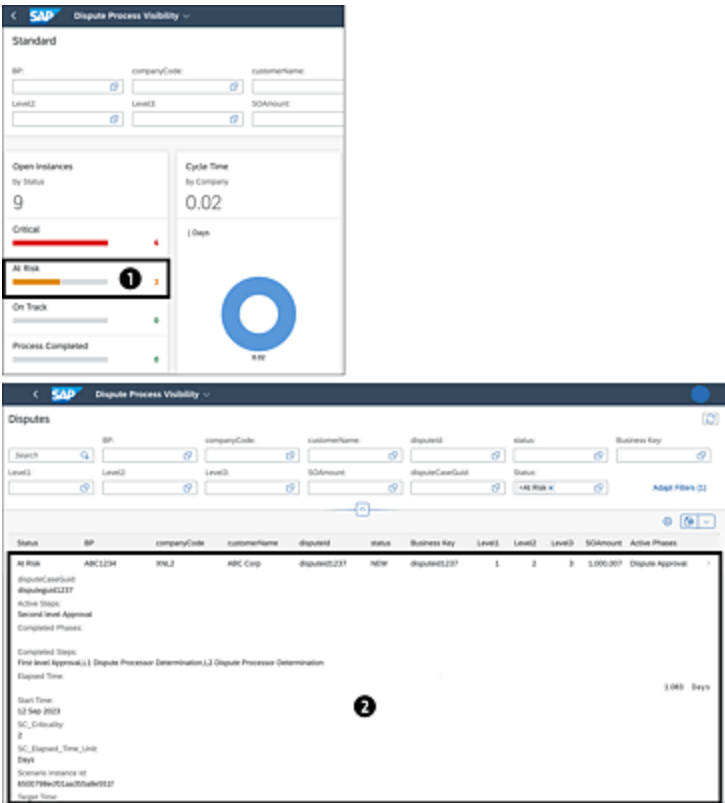

Figure 19.27 Testing Trigger Workflow Action: Steps 1 and 2
Now, let's see the effect of this **Trigger Workflow** action. For this, launch the visibility scenario for the process, as shown in Figure 19.27.
Because you defined the condition to trigger the workflow for the process instances where the status is **At Risk**, click on the **At Risk** section of the **Open Instances** tile in the visibility dashboard, as shown in Figure 19.27 ①. It will navigate to the detail screen.